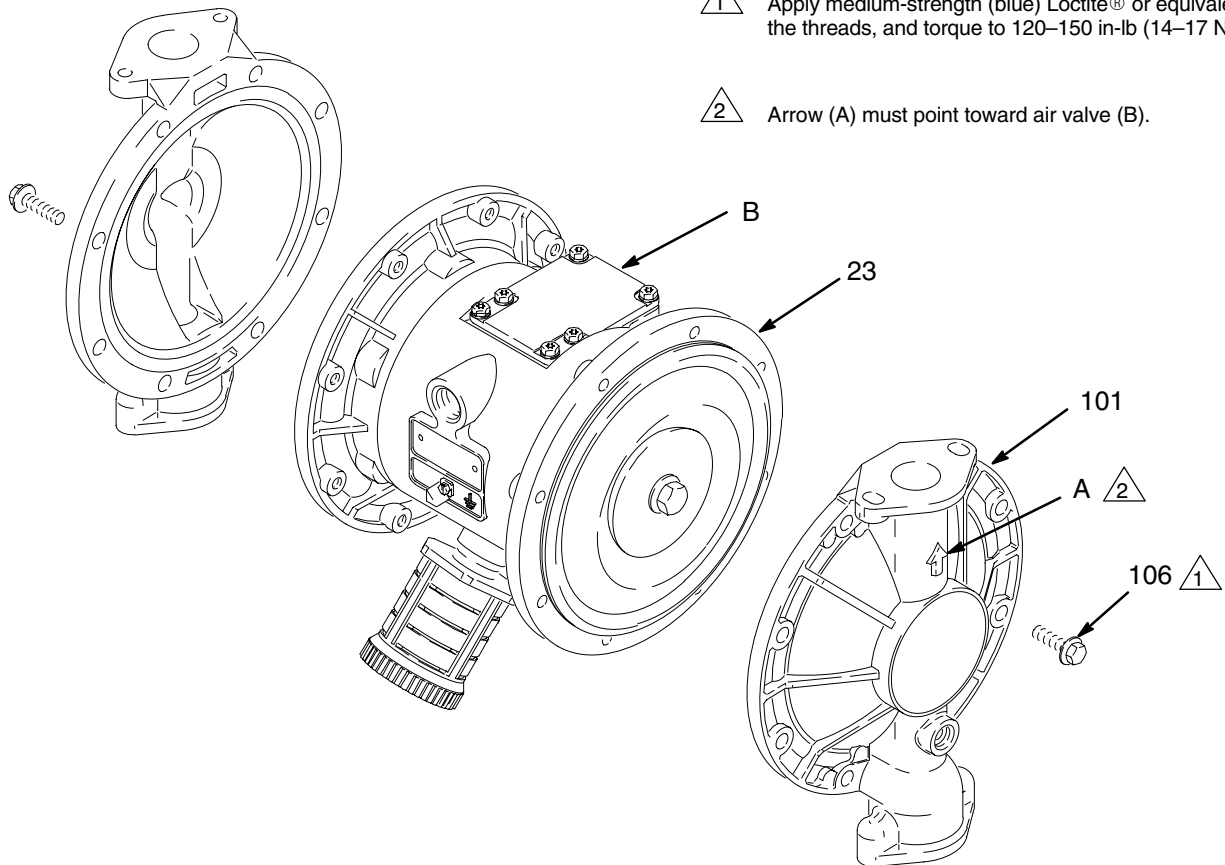

Fig. 13
3. Using a 10 mm socket wrench, remove the screws (106) holding the fluid covers (101) to the air covers (23). Pull the fluid covers (101) off the pump. See Fig. 13.
- a. Install the o-ring (108*) on the shaft bolt (107).
- b. Install the fluid side diaphragm plate (105) on the bolt so the rounded side faces the diaphragm (401).
- NOTE:** *On stainless steel pumps only*, the fluid side diaphragm plate (105) is stainless steel. This plate **is not** stamped with its part number. Be sure to install this plate on the fluid side of the diaphragm.
- c. *On Teflon® models only*, install the Teflon® diaphragm (403*). Make certain the side marked AIR SIDE faces the center housing (1).
- d. Install the diaphragm (401*) on the bolt. Make certain the side marked AIR SIDE faces the center housing (1).
- e. Install the air side diaphragm plate (104) so the rounded side faces the diaphragm (401). This plate is used on all models, and is stamped with its part number.
- f. Apply medium-strength (blue) Loctite® or equivalent to the bolt (107) threads. Screw the bolt into the shaft (24) hand tight.
3. Grease the length and ends of the diaphragm shaft (24), and slide it through the housing (1).
5. Hold one shaft bolt (107) with a wrench and torque the other bolt to 20–25 ft-lb (27–34 N.m) at 100 rpm maximum.
6. Align the fluid covers (101) and the center housing (1) so the arrows (A) on the covers face the same direction as the air valve (B). Apply medium-strength (blue) Loctite® or equivalent to the threads of the screws (106). Secure the covers with the screws handtight. See Fig. 13. Using a 10 mm socket wrench, torque the screws oppositely and evenly to 120–150 in-lb (14–17 N.m).